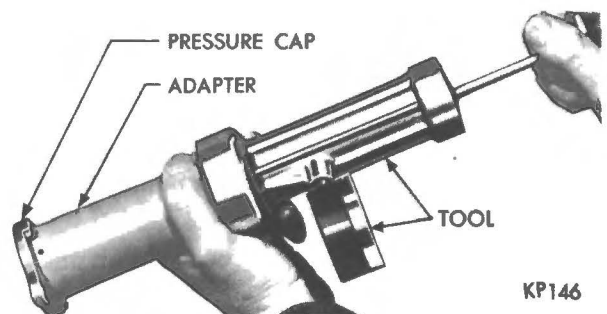

Fig. 4 - Testing the pressure cap (Tool C-3499).
(1) Attach neoprene seal and adaptor to tester C-3499 (See Fig. 4).
(2) Dip the pressure cap in water and apply cap to tester adaptor.
(3) Apply pressure to cap. If pressure cap fails to hold pressure within a range of 12 to 15 p.s.i., replace with a new, tested cap.